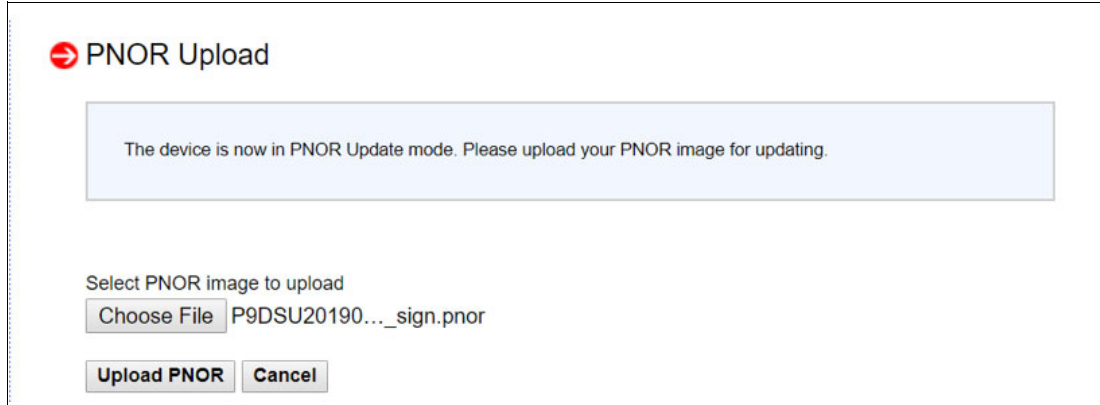

Figure 4-5 PNOR Upload window: Selecting the image to upload
2. From the maintenance list on the dashboard, select **PNOR Update**, as shown in Figure 4-5.